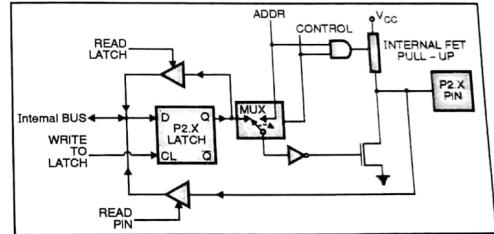

Fig. 3.3.4 : Port 2 circuit
- Port 2 of the microcontroller 8051 is a multifunctional port. It can be used as a simple input / output port or for generating the upper order address bus for external memory ( $A_8 - A_{15}$ ). Fig. 3.3.4 shows port 2 circuit.